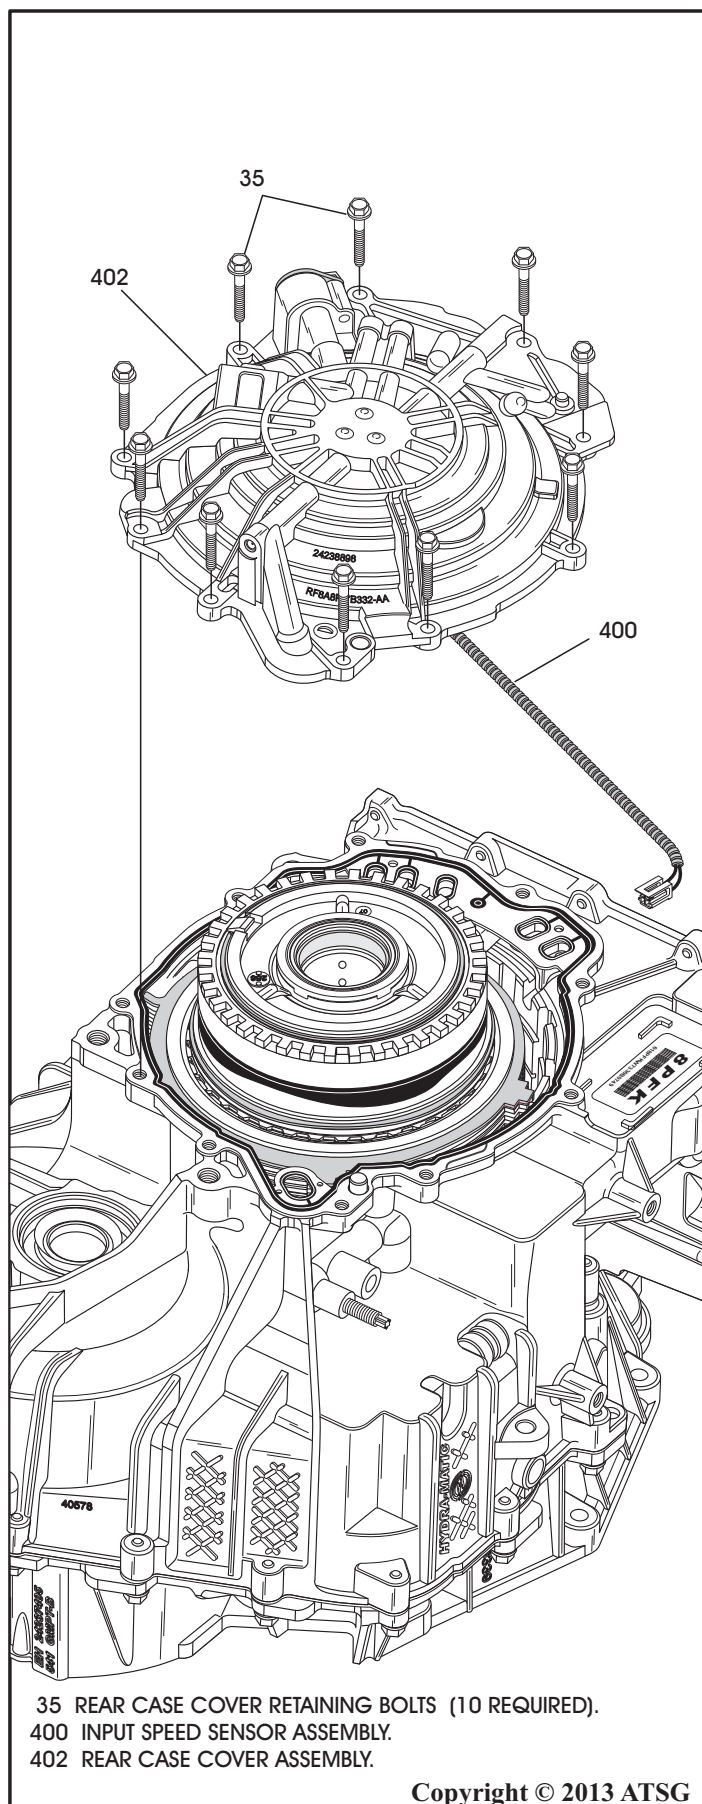

Figure 54
24. Remove the 10 rear case cover bolts and remove rear case cover with input speed sensor still in the cover, as shown in Figure 54.